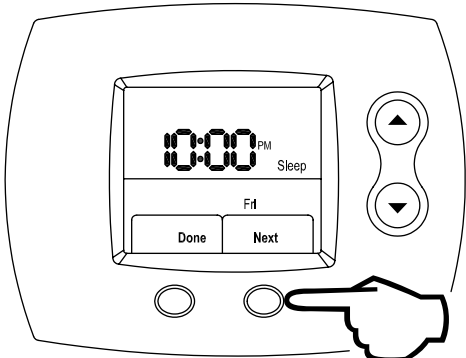

Figure 142
Step 25: Press the **RIGHT** (Next) button to lock in AM / PM. This is shown in Figure 142.